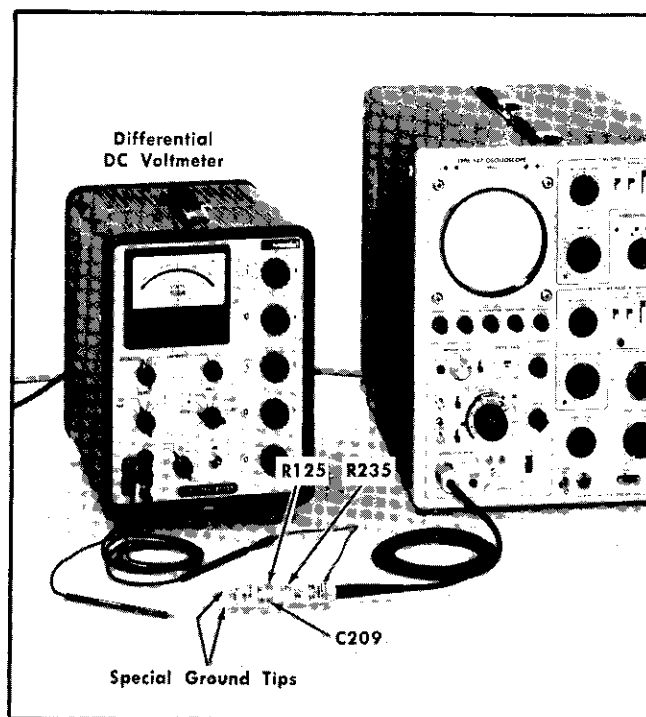

Fig. 6-4. Equipment setup for steps 1 and 2.
1. Adjust DRAIN VOLTS (R125) ①
a. Equipment setup, adjustment location and test point are shown in Fig. 6-4.
b. Attach the special ground tips (item 20) to the P6046 Probe + and — Input tips.
c. CHECK—Drain Voltage. Using the Differential Voltmeter (item 8), check for 10.5 V DC ± 0.25 V at the C209 adjusting screw with respect to the Probe ground lug. (See Fig. 6-4).
d. Adjust—DRAIN VOLTS (R125, Fig. 6-4) for 10.5 V DC at the C209 adjusting screw.
2. Adjust GAIN SWITCHING BAL (R235) ①
a. The preliminary control settings apply. Locations of adjustments are shown in Fig. 6-4.
- h. ADJUST—GAIN SWITCHING BAL (R235, Fig. 6-4) to position the trace to graticule center. A slight amount of drift around the adjusted position may be present at 1 mV sensitivity.)